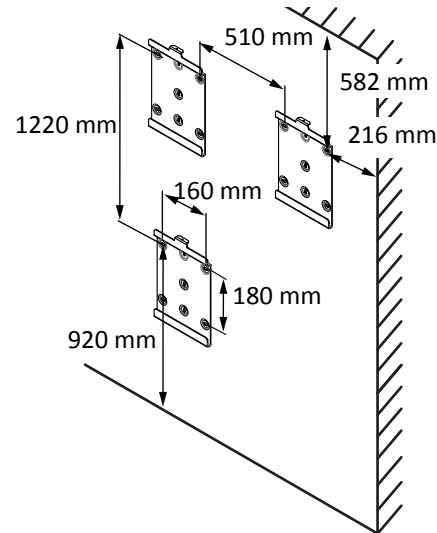

Fig. 8: Wall mounting
- Minimum clearances to be observed during installation: [See figure 8] ▶ Page 16]